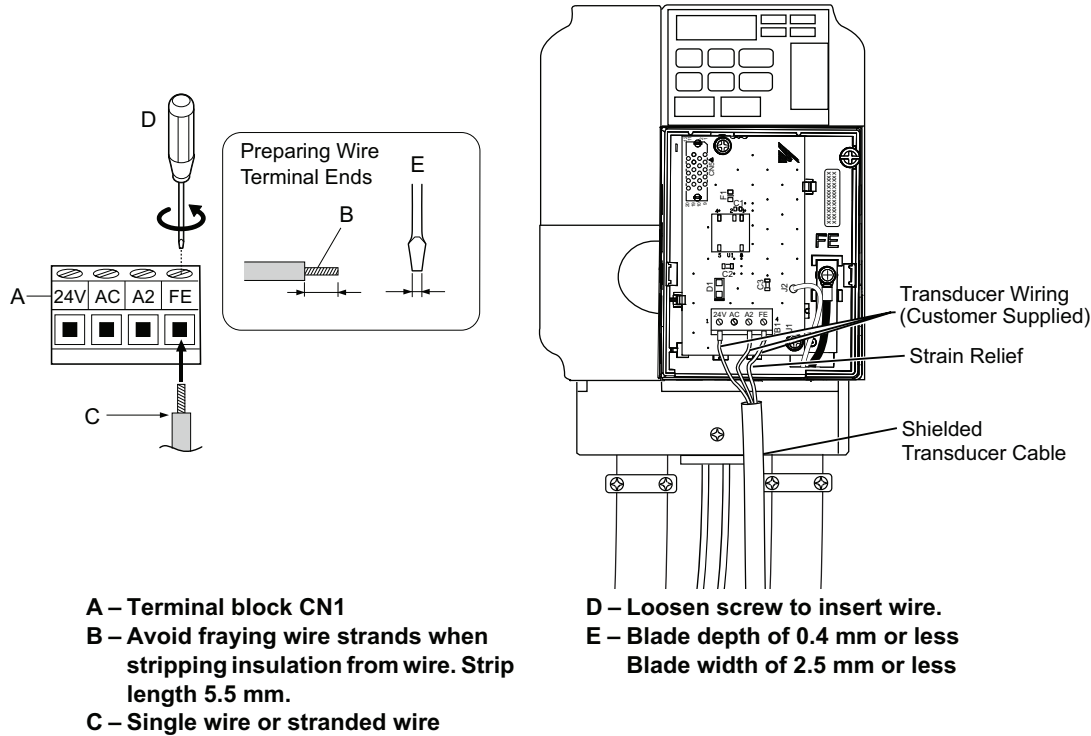

Figure 1.10 24V Power Supply Wiring Guide
5.21 Connect transducer wiring to the 24V Power Supply terminals using *Figure 1.10* as a guide.